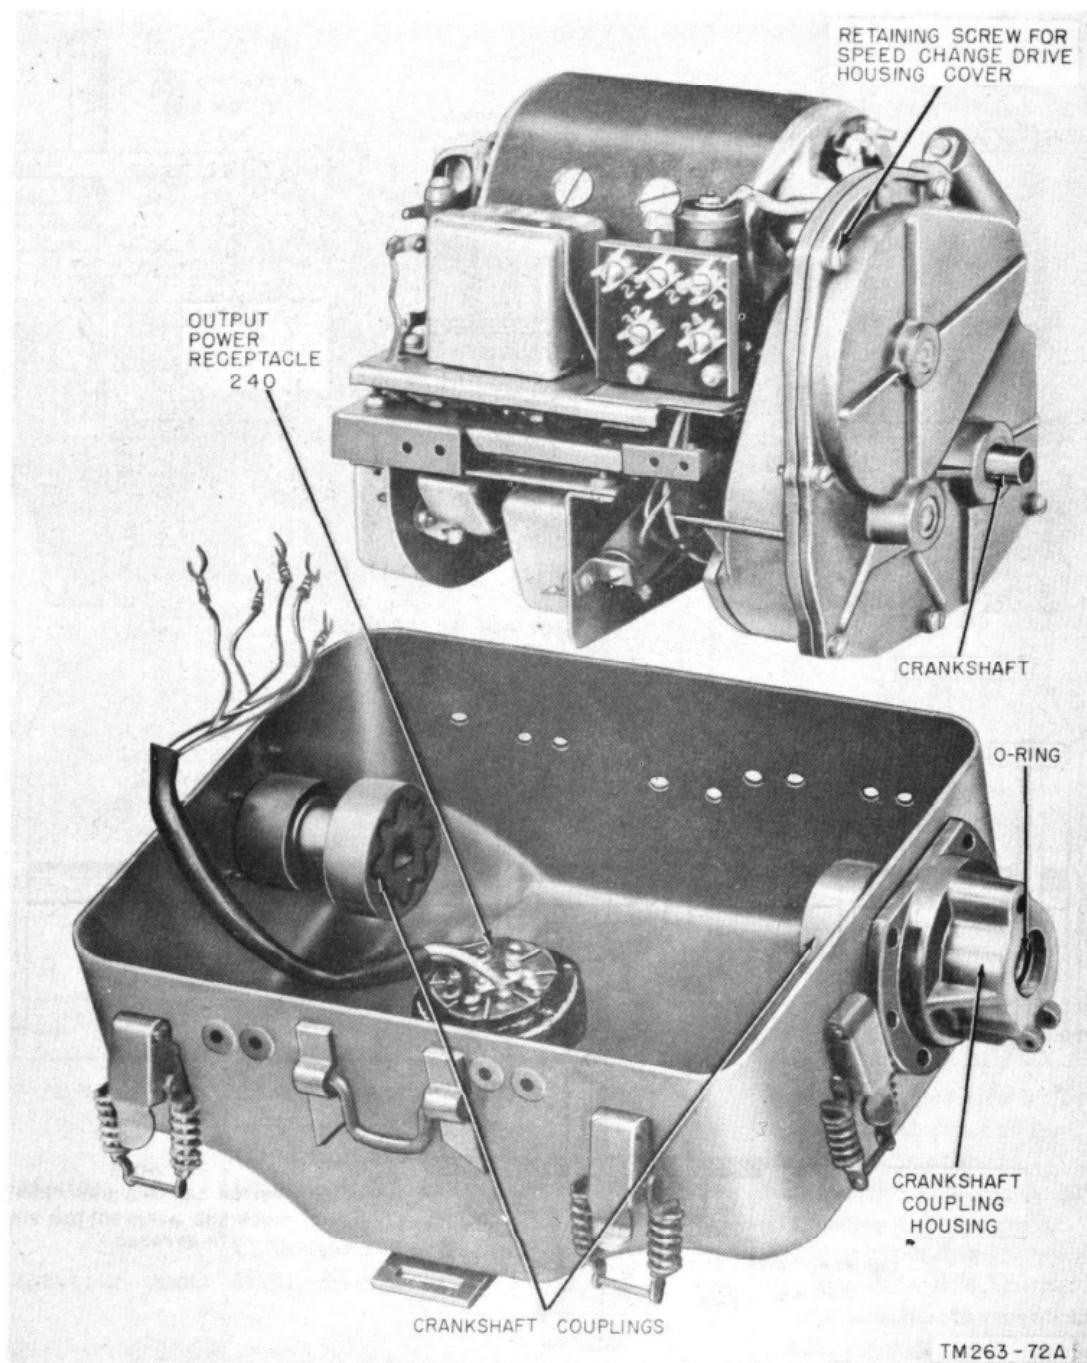

Figure 127. Generator GN-58-A, bottom half of housing removed.
- Pull the crankshaft coupling (fig. 127) through the hole in the housing.